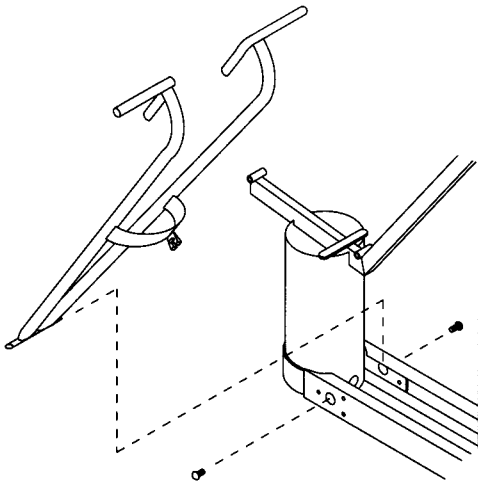
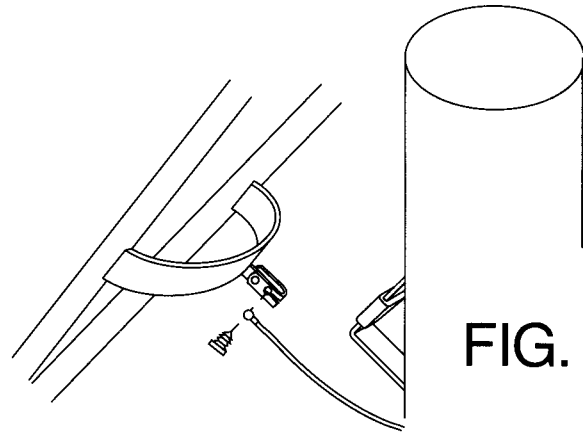

FIG. 2
FIG. 2A
5. Attach row arm assembly to the base of the leg/ab column. (1/2-13 x 1 button head screws, Qty: 2) (Fig. 2) Attach row cable to cable retainer and secure with plastic hole plug. (Fig. 2A)